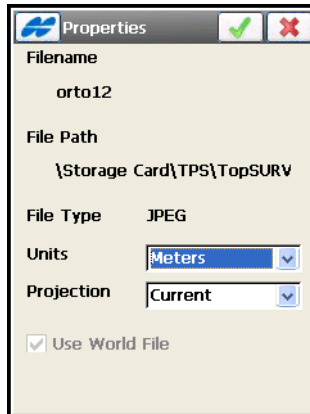

Figure 6-56. Properties of Background Image
- The ok  button – opens the **Properties** screen (Figure 6-56 on page 6-47) for the selected file.